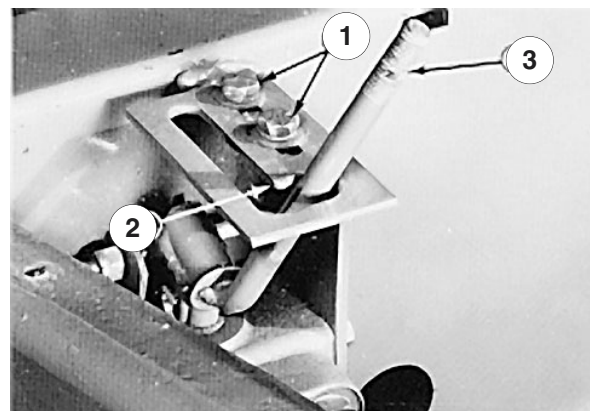

Figure 47
3. Loosen the two capscrews on the top of the lift lever latch (Fig. 47). Place the lever on rounded tip of the latch (Fig. 47), and slide the latch w/the lever forward until you feel stopping resistance. Then tighten the capscrews to lock the latch in place. Check for free operation of the lift lever by moving the lever from RAISE or TRANSPORT to FLOAT. The lift lever should just clear the rounded position of the latch as you move the lever into the FLOAT position.